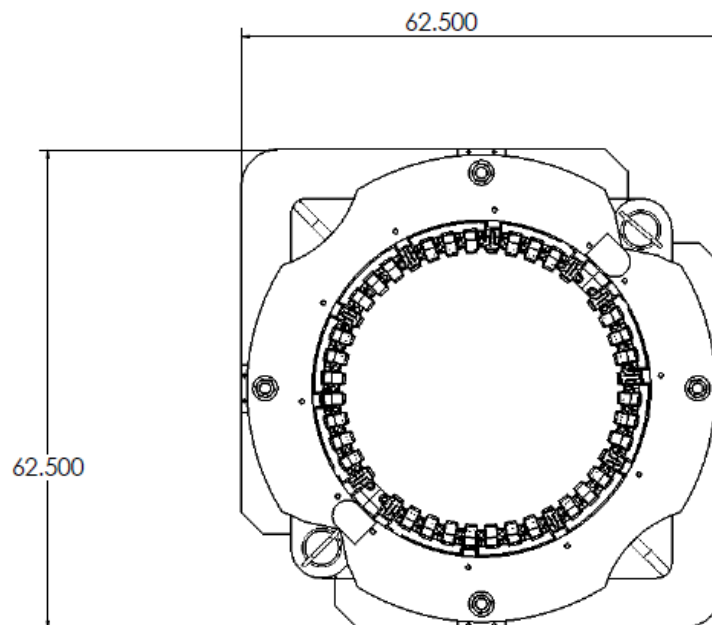

Figure 2
- Check lubricator oil level by looking at reservoir on the underside of the control box. See Figure 5. Add air oil tool lubricant as needed into fill - shown in Figure 2.